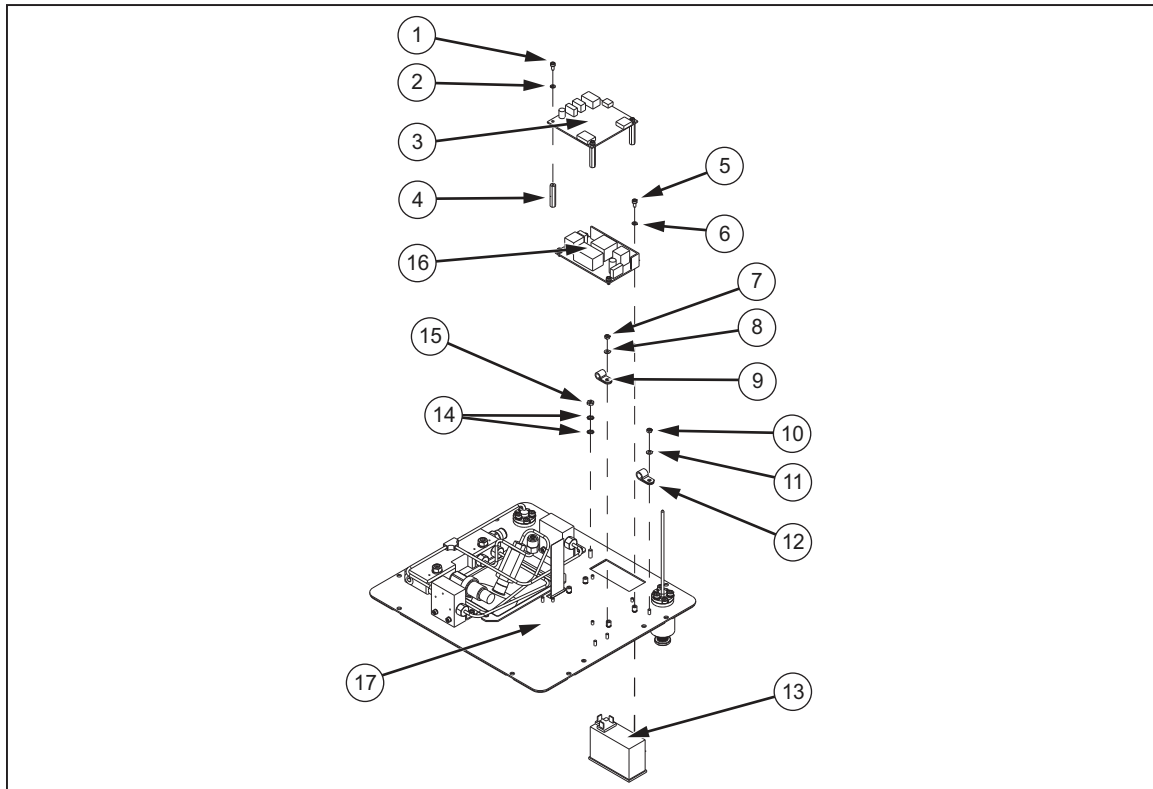

Figure 5-16. Power Entry Module and Power Supply PCA Replacement
Use the following instructions and Figure 5-16 to replace the power entry module (⑬).
2. Put the control panel (①) on a flat work surface upside down, using support blocks to keep it raised above the surface.
3. Disconnect the wires to the power entry module (⑬).
5. Put the new power entry module (⑬) in the control panel (①).
6. Connect the wires to the power entry module (⑬).
Use the following instructions and Figure 5-16 to replace the power supply pca (16).
2. Put the control panel (1) on a flat work surface upside down, using support blocks to keep it raised above the surface.
3. Disconnect the wires to the power supply pca (16) and the Intensifier pca (3). The membrane keypad connector is marked "J1" on the pca. The ribbon cable connector releases by lifting up on the left and right side edges.
4. Remove the four screws (1) that secures the intensifier pca (3) to the standoffs (4).
5. For power supply pca (16) replacement, remove the four screws (1) and lock washers (2) and standoffs (4) from the power supply pca (16).
6. Remove the four screws (5) that secures the power supply pca (16) to the control panel (17). There are four small spacers under the power supply which will need to be reused.
7. Remove the power supply pca (16).
8. Position the new power supply pca (16) on the control panel (17) and on the small spacers, and then secure it with four screws (5) and lock washers (6).
9. Position the intensifier pca (3) on the standoffs (4) and secure it with four screws (1) and lock washers (2).